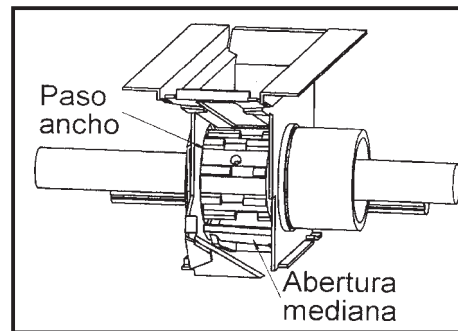

fig. 7
- Wide cog with large alternated teeth for normal and big seed (figs. 7 and 8).